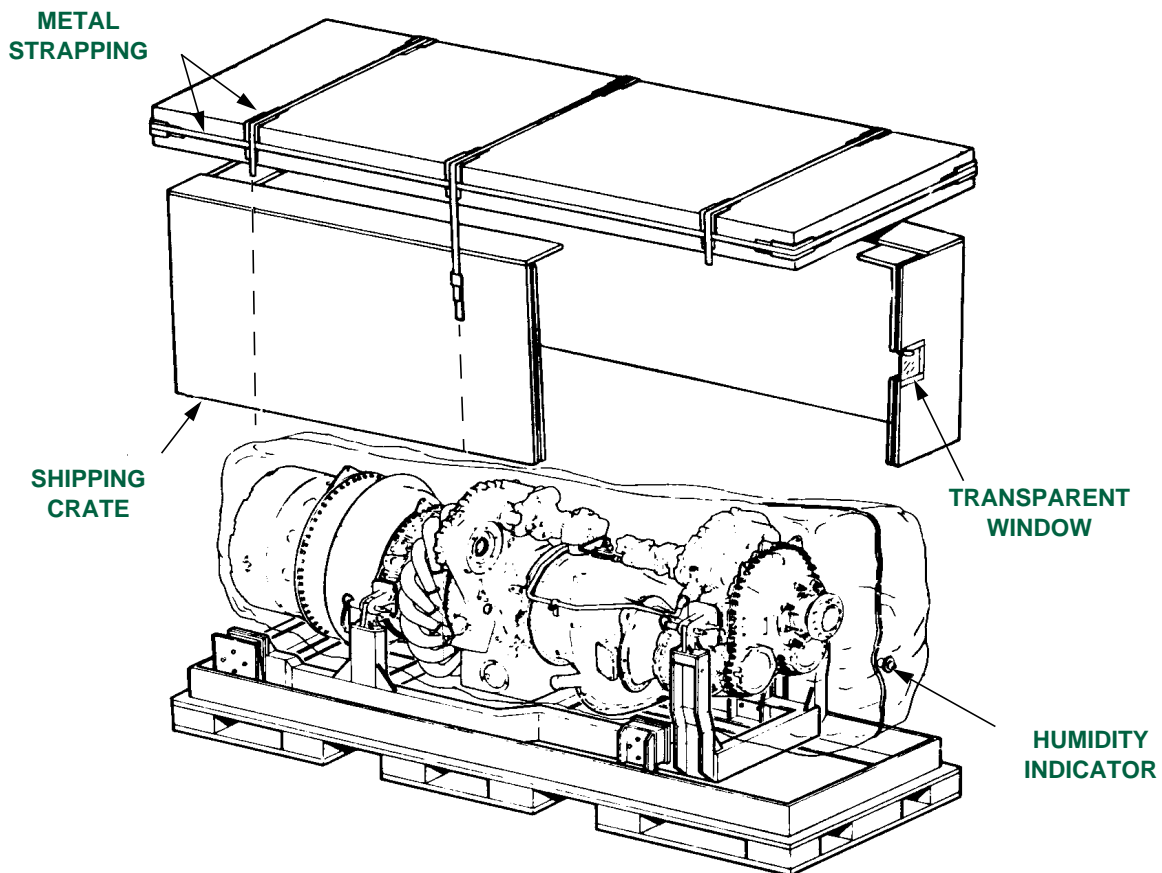

FIGURE 2 - ENGINE IN STORAGE CONTAINER
- Step 6. Install the end plywood section of the storage container so that the opening for the transparent panel is aligned with the humidity indicator (see Figure 2).